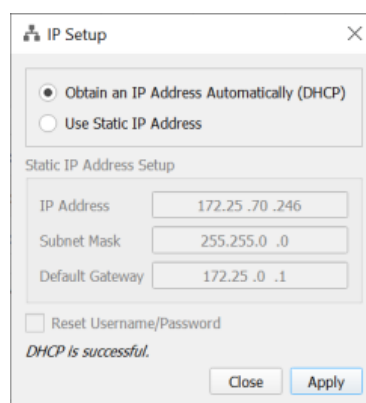

Figure 5-2 IP Setup Dialog Box
6. On the *IP Setup* dialog box (Figure 5-2), select either to use a static IP address or to obtain a dynamic IP address (DHCP). If you choose to use a static IP address, provide the IP address, subnet mask and the gateway information. Check the *Reset Username/Password* checkbox if you wish to reset the username and password to the defaults. If you choose to obtain an IP address automatically, make sure a DHCP server is running in your network.